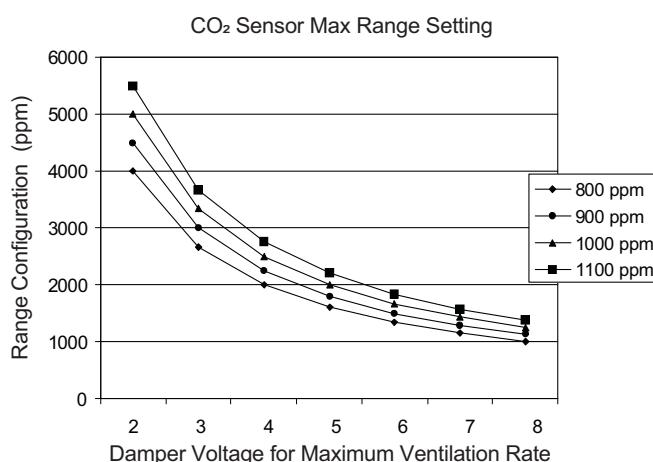

Fig. 65 — CO₂ Sensor Maximum Range Settings
Mount the accessory IAQ sensor according to manufacturer specifications. The IAQ sensor should be wired to the AQ and AQ1 terminals of the controller. Adjust the DCV potentiometers to correspond to the DCV voltage output of the indoor air quality sensor at the user-determined set point. See Fig. 65.
3.6 volts to the actuator provides a base ventilation rate of 5% and an output of 6.7 volts provides the maximum ventilation rate of 20% (or base plus 15 cfm per person). Use Fig. 65 to determine the maximum setting of the CO₂ sensor. For example, an 1100 ppm set point relates to a 15 cfm per person design. Use the 1100 ppm curve on Fig. 65 to find the point when the CO₂ sensor output will be 6.7 volts. Line up the point on the graph with the left side of the chart to determine that the range configuration for the CO₂ sensor should be 1800 ppm. The EconoMi\$er IV controller will output the 6.7 volts from the CO₂ sensor to the actuator when the CO₂ concentration in the space is at 1100 ppm. The DCV set point may be left at 2 volts since the CO₂ sensor voltage will be ignored by the EconoMi\$er IV controller until it rises above the 3.6 volt setting of the minimum position potentiometer. Once the fully occupied damper position has been determined, set the maximum damper demand controlled ventilation potentiometer to this position. Do not set to the maximum position as this can result in over-ventilation to the space and potential high humidity levels.